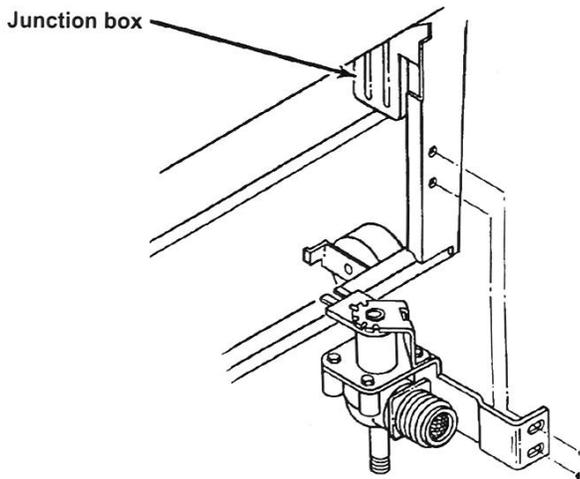

Figure 6
10. The following installation steps are for single valves. See Figure 6.